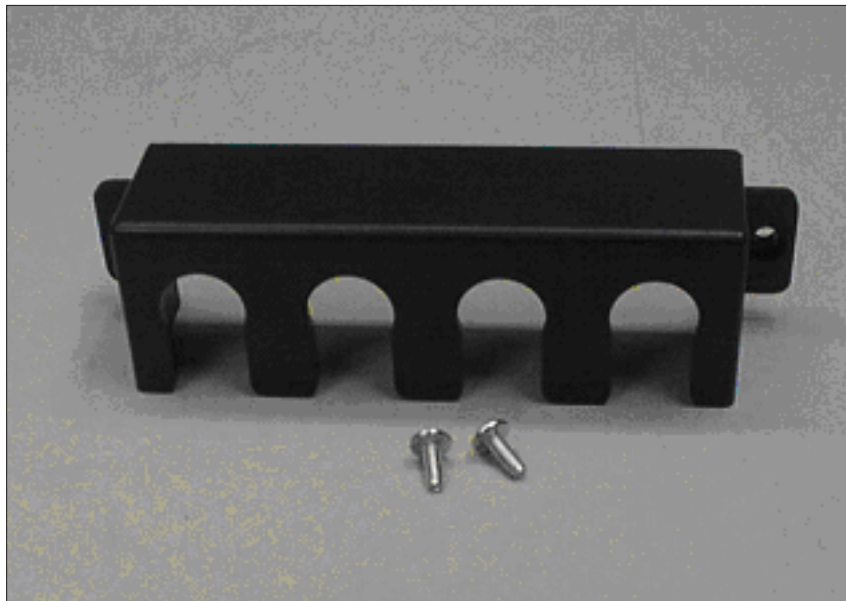

Figure 58. 2145 UPS-1U power cable retention bracket hardware
2. Remove the bracket and the two screws (shown in Figure 58) from the packaging.